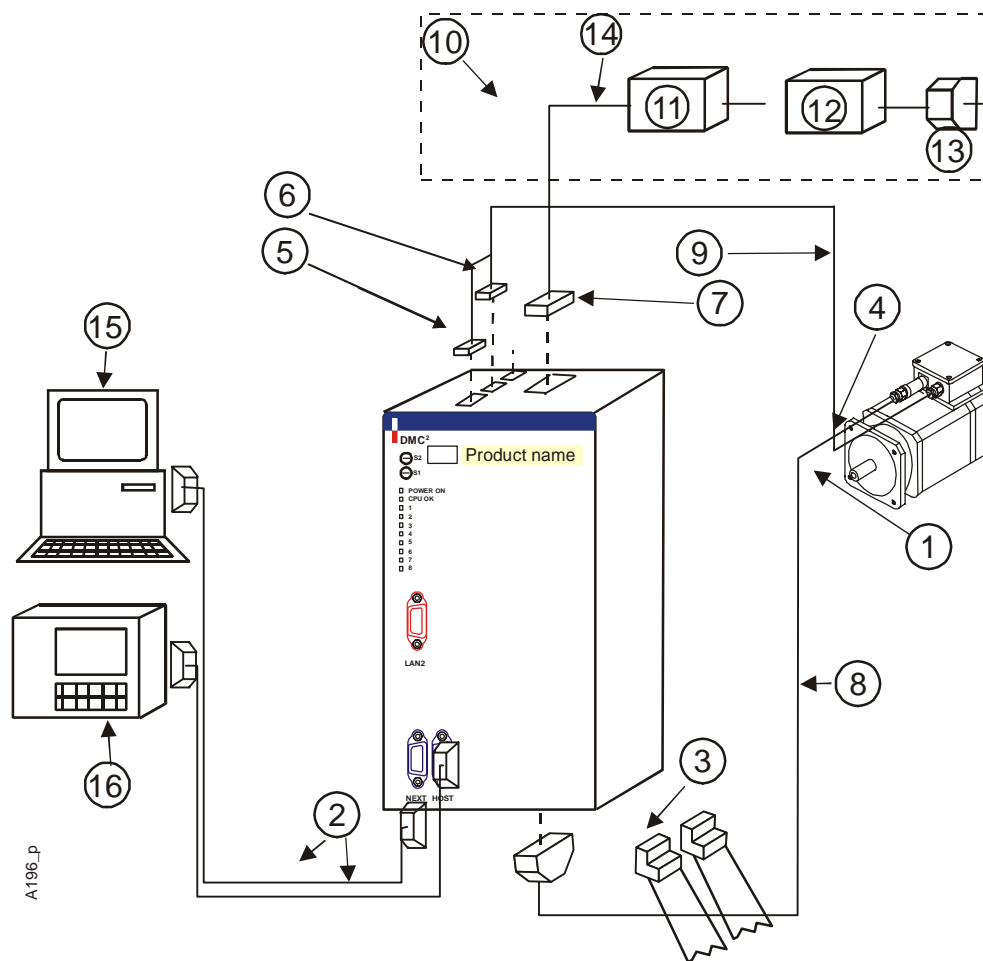

Figure 6. Example of PDS with an AC supplied DMC² unit.
- One or more AC supplied DMC² unit(s). See Figure 6.